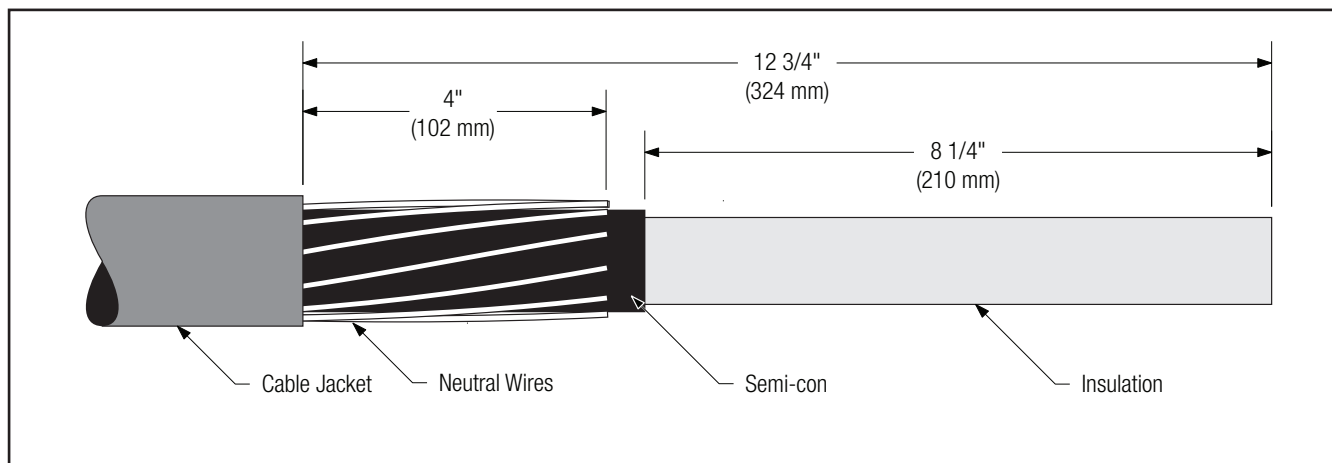

Figure 1
- 2.2 Prepare cables according to standard procedures. Refer to template provided or illustration below for proper dimensions (*Figure 1*).